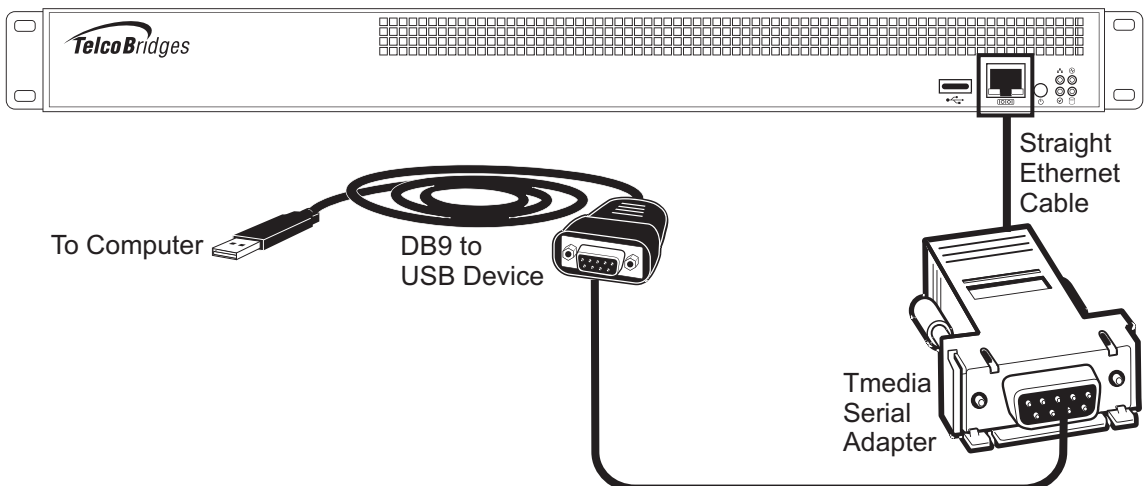

Figure 3.2 Conceptual View of a Serial Connection from the 3200 Series Gateway to a Computer
2. If your computer's serial port features a DB9 connector, use the Tmedia serial adapter supplied with your 3200 series gateway. If your computer's serial port features a USB connector, you will need to provide a USB to DB9 adaptor. Refer to figure 3.2 on page 56.